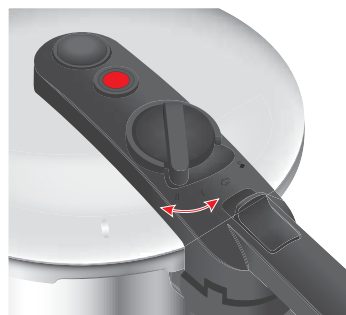

Abb. 11: Setting the cooking level
1. Set the pressure regulator to the desired cooking level (see fig. 11).